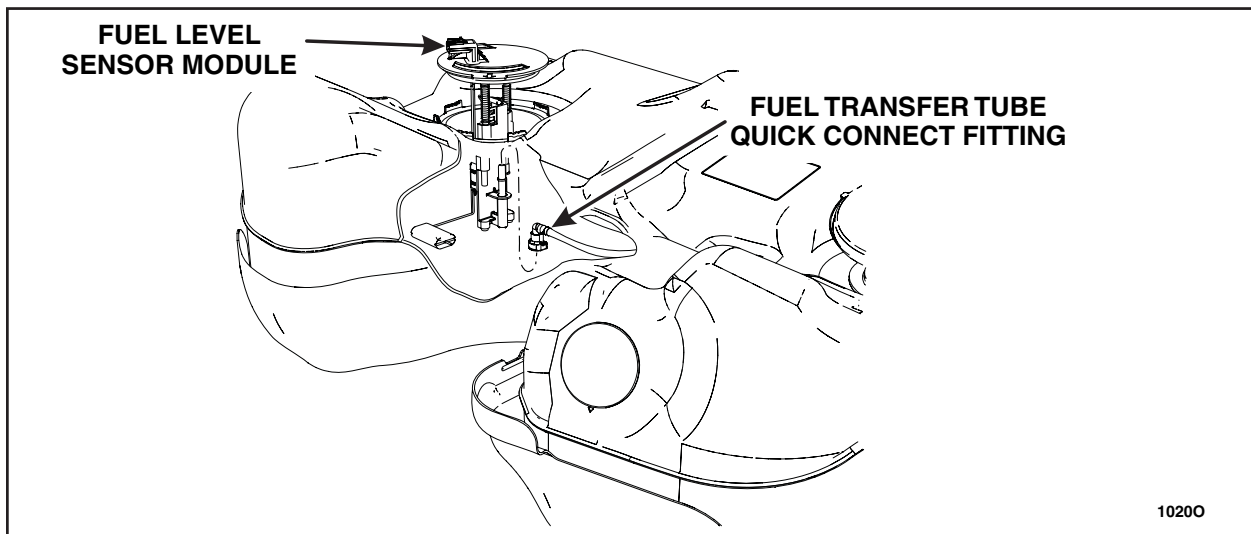

FIGURE 7
23. Lift the fuel level sensor module slightly out of the tank and disconnect the fuel transfer tube quick connect fitting from the fuel level sensor module. See Figure 7. For additional information, refer to WSM Section 310-00.
36. Position the fuel level sensor module into the *new* fuel tank and connect the fuel transfer tube quick connect fitting inside the fuel tank. See Figure 7. For additional information, refer to WSM Section 310-00.